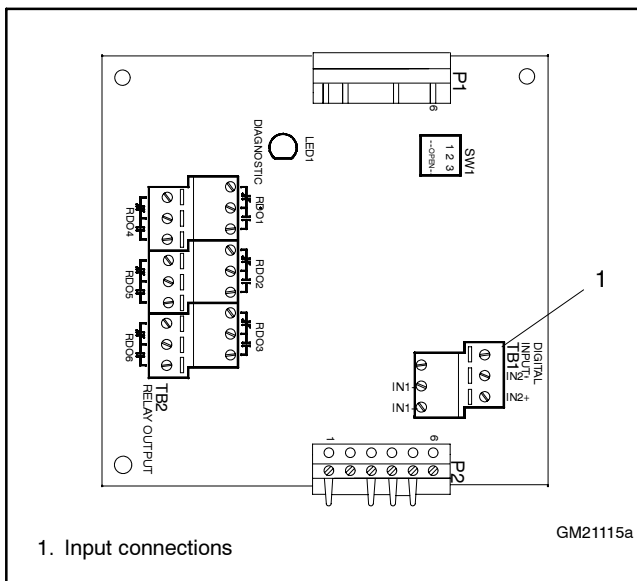
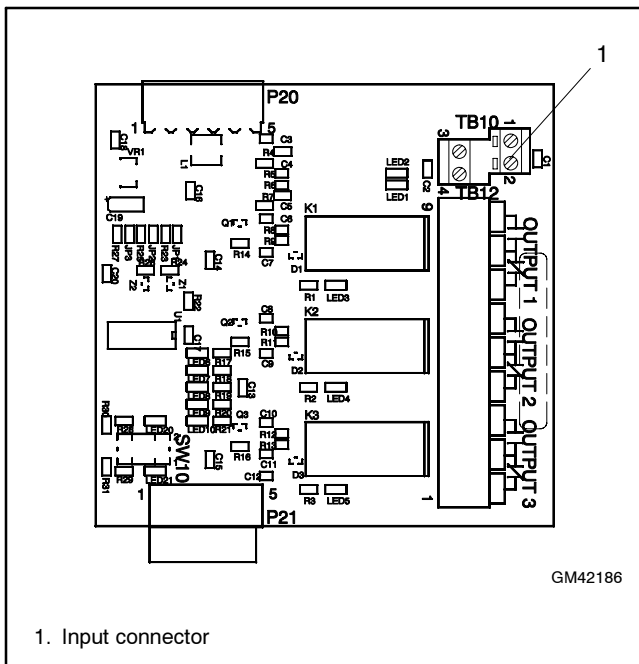

Figure 9 Series 1000 I/O Module Input Connections
Figure 11 Series 1500 High-Power I/O Module
- b. Connect to an available input terminal on an input/output (I/O) module. See Figure 9 through Figure 11. I/O modules are optional equipment. Refer to the instructions provided with the I/O module kit or the transfer switch operation and installation manual.